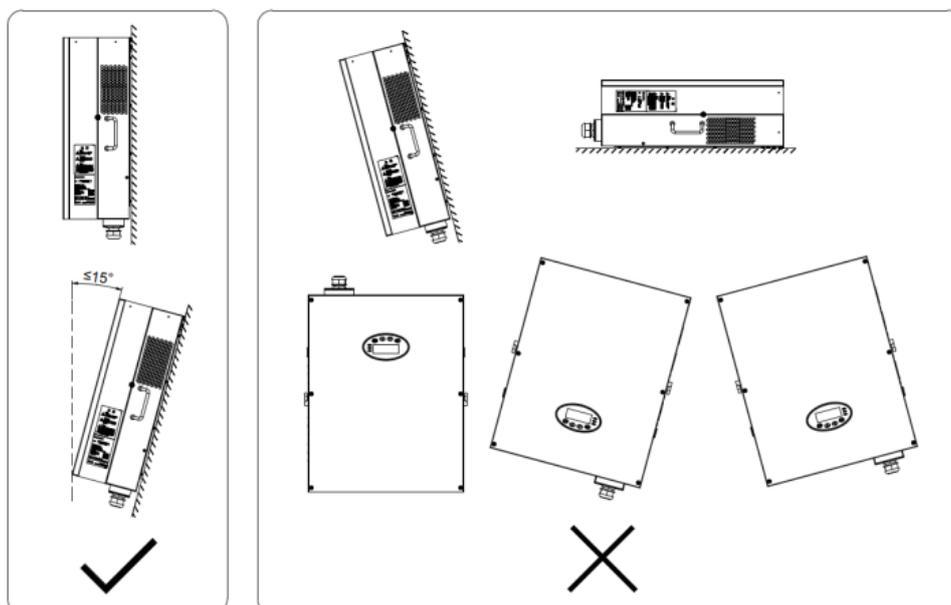

Fig 4.6 Installation position of the inverter
- (4) The ambient temperature of installation should be  $-25^{\circ}\text{C}\sim 60^{\circ}\text{C}$
- (5) The installation site should be away from electronic devices which can generate strong electromagnetic interference
- (6) The inverter should be installed on firm and solid surface eg wall surface and metal bracket
- (7) The installation surface should be vertical to the horizontal line, as shown in Figure 4.6